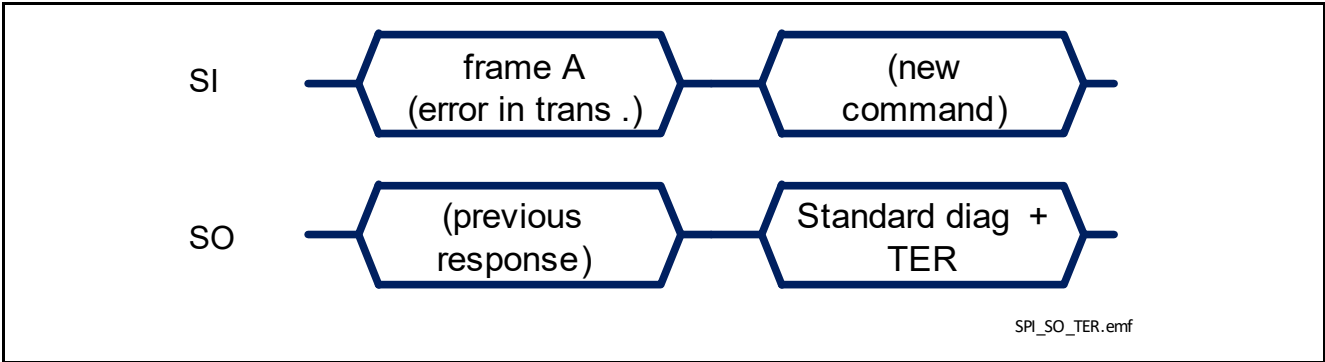

Figure 35 TLD5501-2QV response after an error in transmission
- in case an error in transmission happened during the previous frame (for instance, the clock pulses were not multiple of 8 with a minimum of 16 bits), shown in **Figure 35**